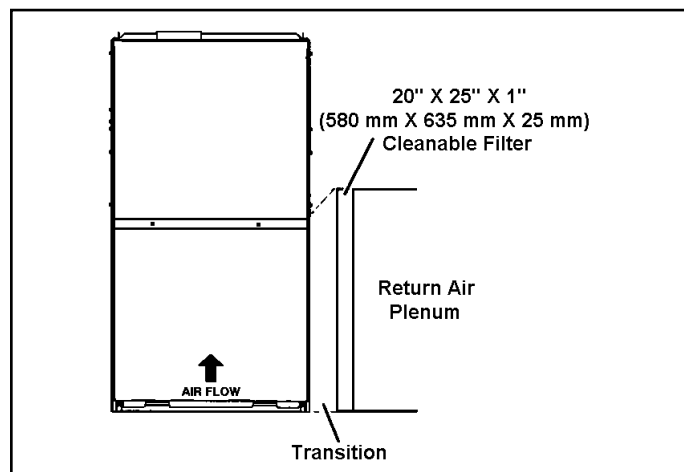

Figure 9. Single Side Return Air (with transition and filter)
- Single side return air with transition to accommodate 20 x 25 x 1 in. (508 x 635 x 25 mm) cleanable air filter. (Required to maintain proper air velocity.) See Figure 9.